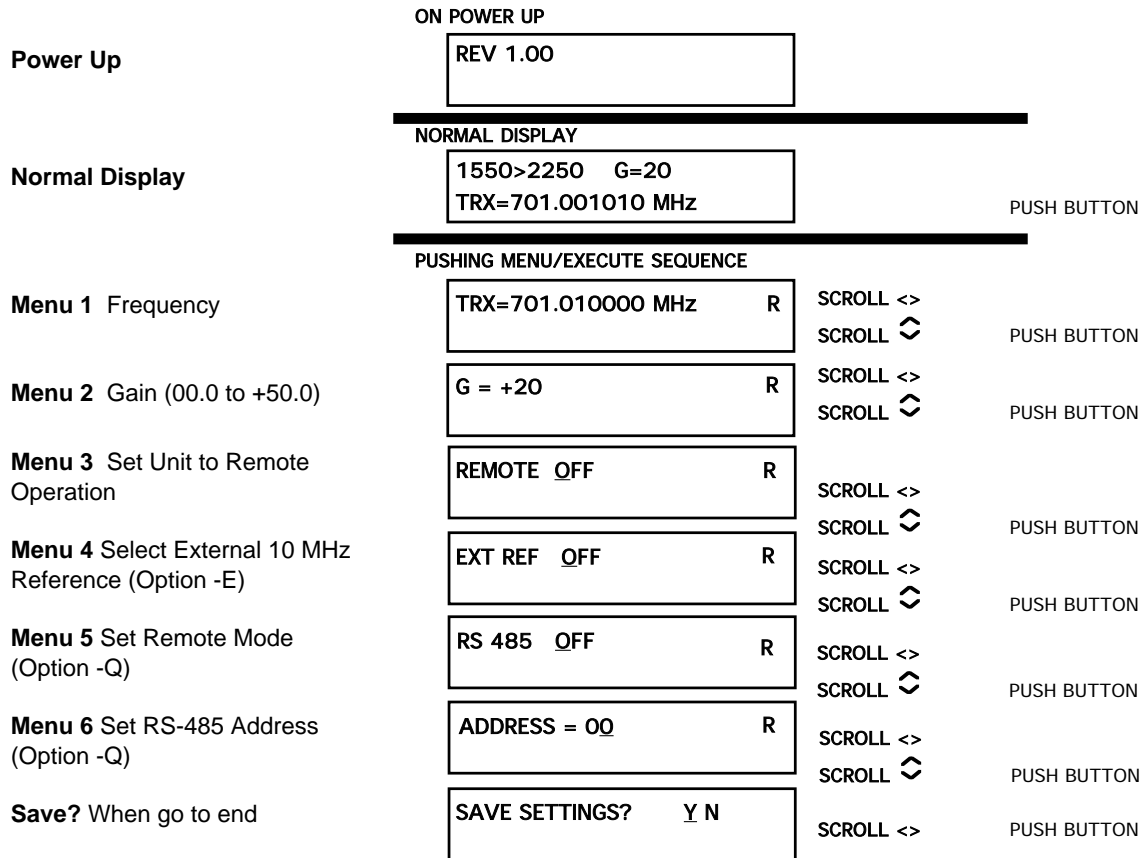

FIGURE 2.5 Menu Display and Sequence
2.5.1 Functions - This section describes operation of the front panel controls. There are three operator switches, the LCD display and alarm indicator LEDs. All functions for the equipment are controlled by these components. The functions are (see Figure 2.5):
Operate the Menu/Execute switch until you get to the menu item you want to change, see Figure 2.5 for the sequence of menu options. The following display is for changing the down converter frequency:
Figure 2.5 gives the menu items and how to make changes.
Push the Menu/Execute switch to get to the gain setting (See Figure 2.5 for the sequence of menu options):